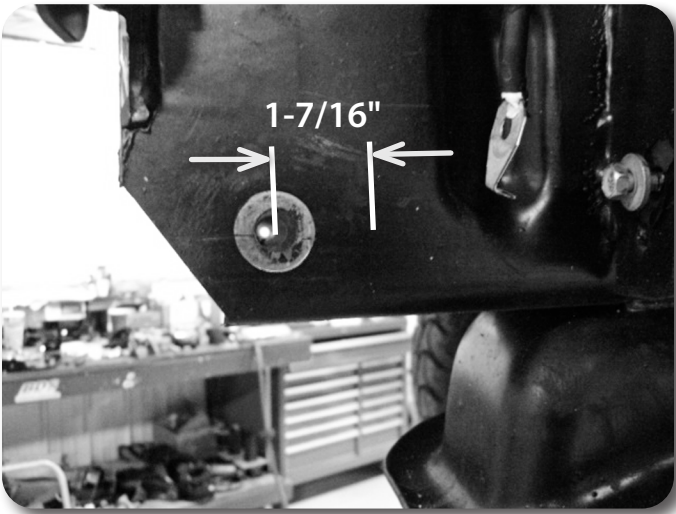

Figure 12
23. Locate the factory tow hook mount holes in the front of the frame rails. The driver's side of each frame rail will only have one tow hook hole. Measure straight back from the center of the existing hole $1\text{-}\frac{7}{16}$ " and mark. **Figure 12** Drill a $\frac{1}{2}$ " hole at the mark (one hole per frame rail).